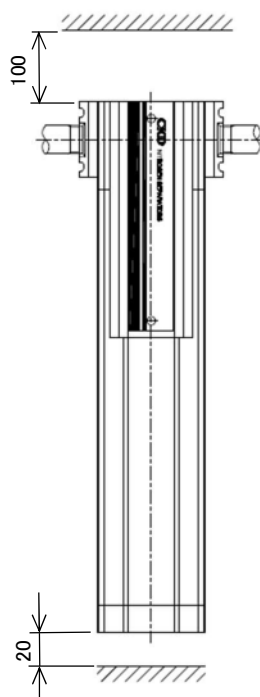

Fig.3
- 3) Allow a minimum of 100 mm upward and 20 mm downward for maintenance purpose. (Refer to Fig.3)